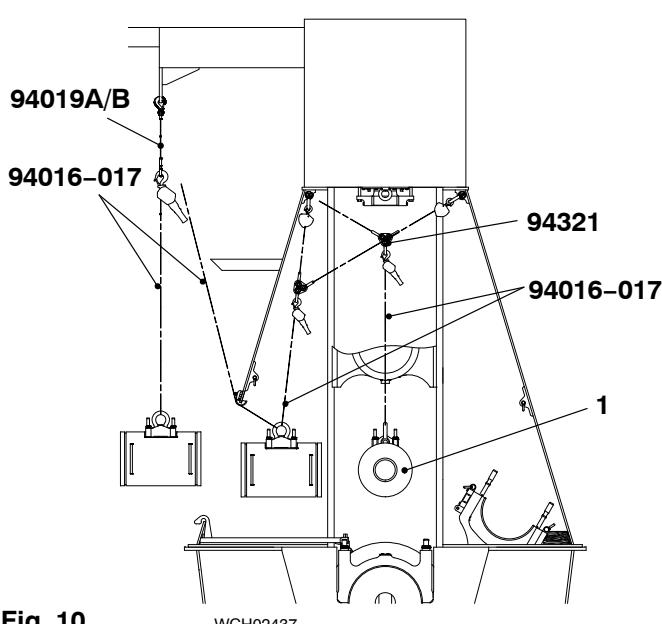

Fig. 10
- 4) Attach the two manual ratchets (94016-017, Fig. 10) to the eye bolt on the crosshead pin (1).
- 5) Move the crosshead pin (1, Fig. 10) through the door frame as follows: